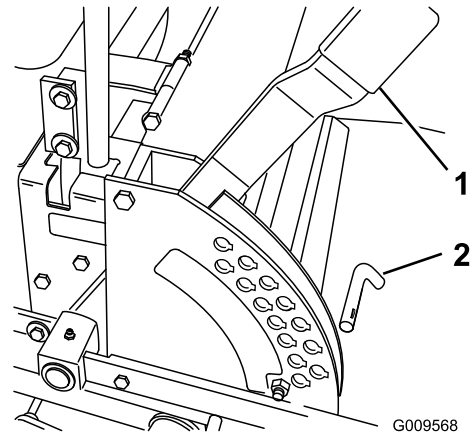

Figure 27
1. Raise the height-of-cut lever to the TRANSPORT position (also the 127 mm (5 inch) cutting-height position) (Figure 27).
2. To adjust, remove the pin from the height-of-cut bracket (Figure 27).
3. Select a hole in the height-of-cut bracket corresponding to the height of cut desired, and insert the pin (Figure 27).